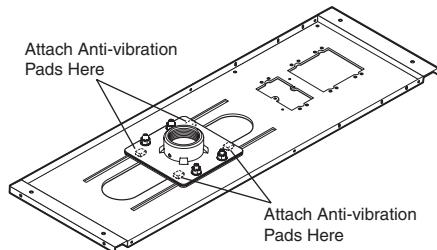

Figure 3 — Attach anti-vibration pads under adapter plate
11. Peel and attach the pads to the **underside** of the adapter plate, one near each corner (see figure 3).